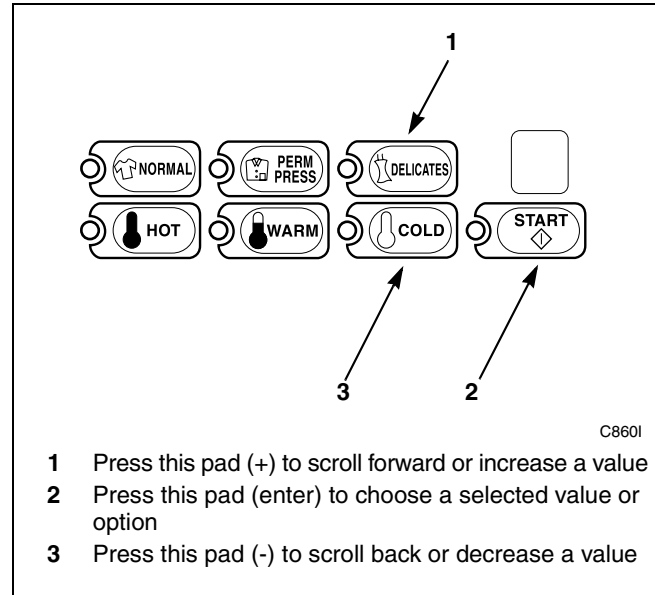

Figure 116
5. Press the DELICATES (+) or the COLD (-) keypad to increase or decrease the day until correct. Refer to *Figure 116*.